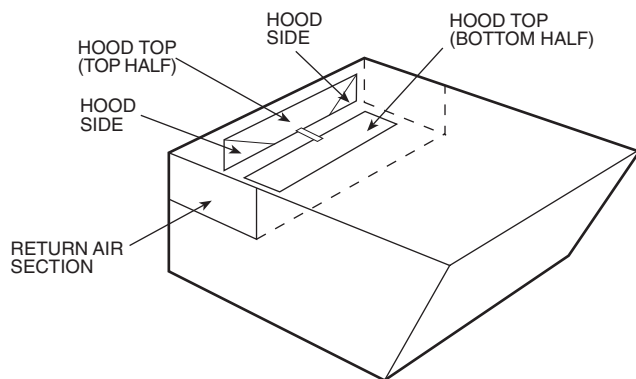

Fig. 18 — Outdoor-Air Hood Component Shipping Location
1. Remove blank panel from return end of unit (hood section). Save the screws. See Fig. 18 for shipping location of components.